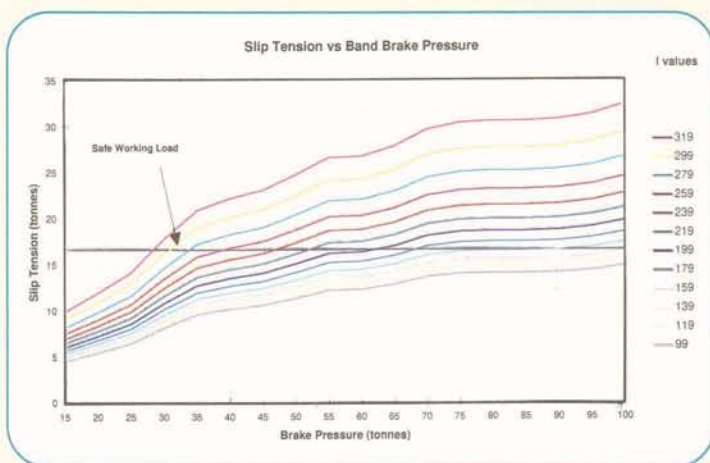

Figure 3 - Example of slip tension vs brake pressure curves
Step 7: Plot Slip Tension (T) vs Brake Pressure for each layer
- Slip tension and Brake Pressure data from Table 3 is plotted on a scatter graph (Figure 3). A line is plotted for each layer of rope on the skyline drum (i.e, each value of l in Table 3). It is best to use a different colour or line style for each of these lines.